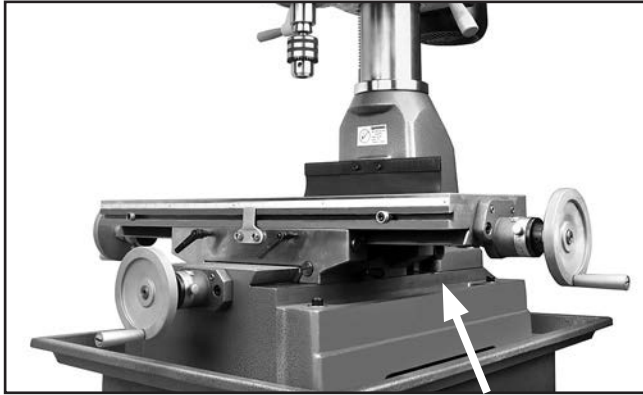

Figure 56. Longitudinal leadscrew location.
6. Use mineral spirits and a brush to clean as much of the oil and debris as possible off of the longitudinal leadscrew shown in **Figure 56**. Allow the leadscrew to dry.